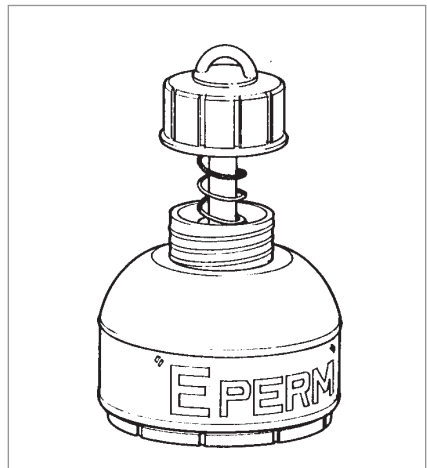

Figure 7: Electret Ion Chamber
■ **Electret Ion Chamber** – This method uses a special plastic canister that contains a disk called an “electret” with an electrostatic charge (*see* figure 7). It is exposed and the change in the electret’s charge read to determine the radon level. There are two versions, one for short-term tests of a few days or weeks, and one for long-term tests of several weeks or months. Electret ion chambers may be read in the home using a special analysis device or mailed to a lab for analysis.